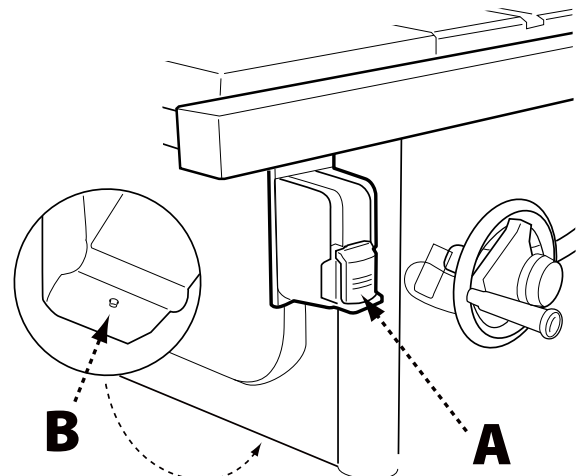

FIGURE 23
The POWER switch (Figure 23) is located underneath the front left extension wing.
reset button (B), on the motor under the saw, shown in Figure 23, and restart the saw.